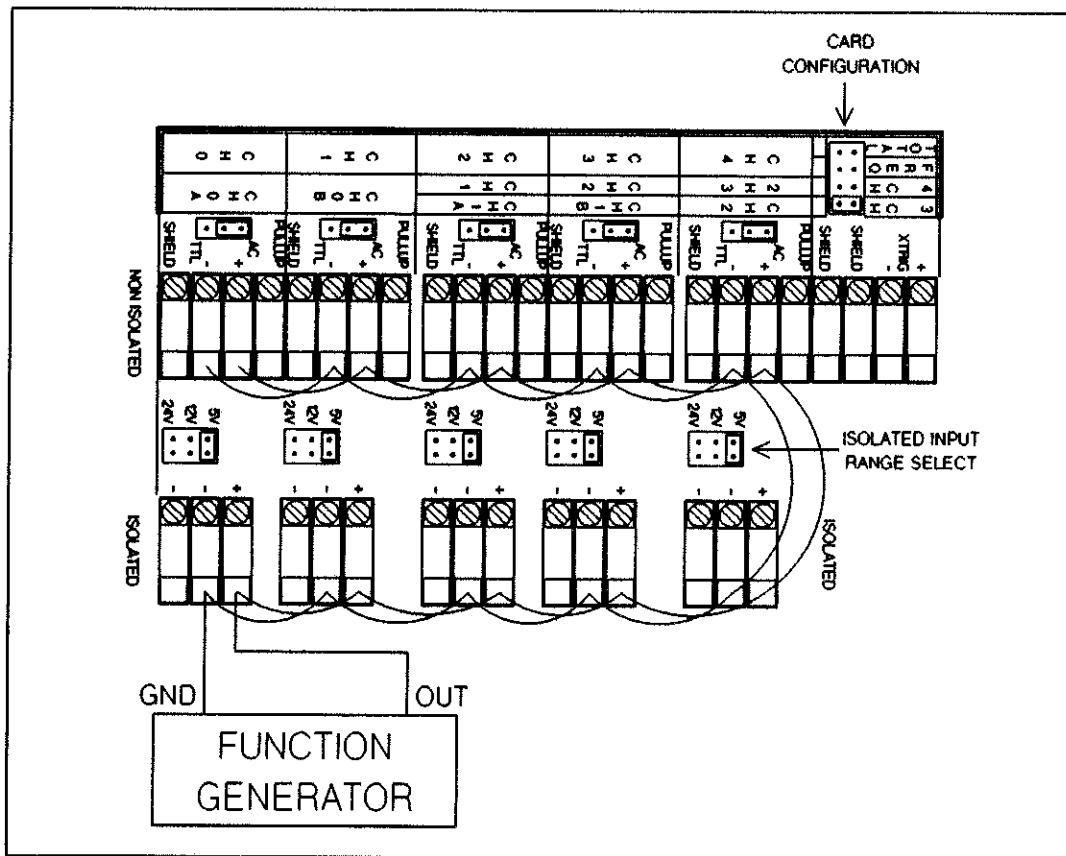

Figure 11-10 Period/Ratio Tests
27. Set the Card Configuration jumper to 3 CH, as shown in Figure 11-10.